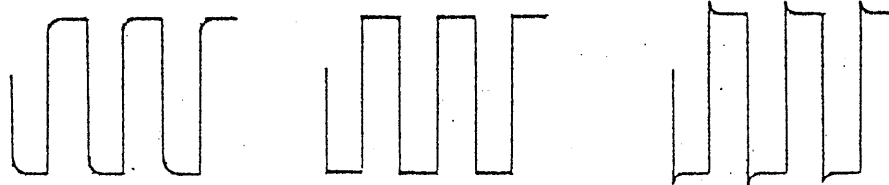

Fig. 6
- (1) A 1 kHz square-wave with 0.1 μ s or less and without overshoot is required for the adjustment.
- (2) Set the VERT GAIN switch to 1/10 and adjust the square-wave amplitude for a four division display.
- (3) Adjust the semi-fixed capacitor (21) in Fig. 6 for the correct waveform.
- (4) Set the VERT GAIN switch (5) to 1/100 and adjust the square-wave amplitude for a four division display.